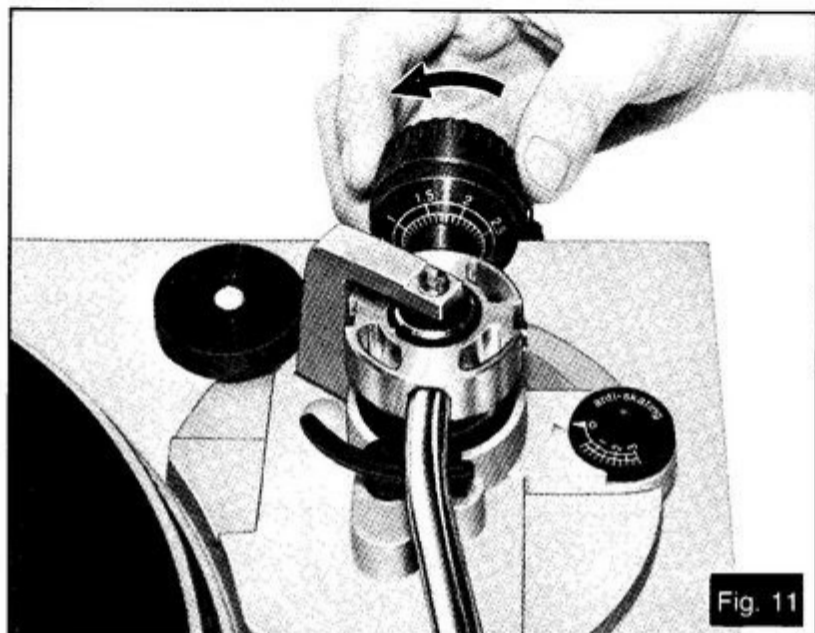

Fig. 11
- 6 After adjusting the horizontal zero (0) balance, turn the balance weight clockwise in the direction of the arrow and align to the correct stylus pressure. (See Fig. 11.)